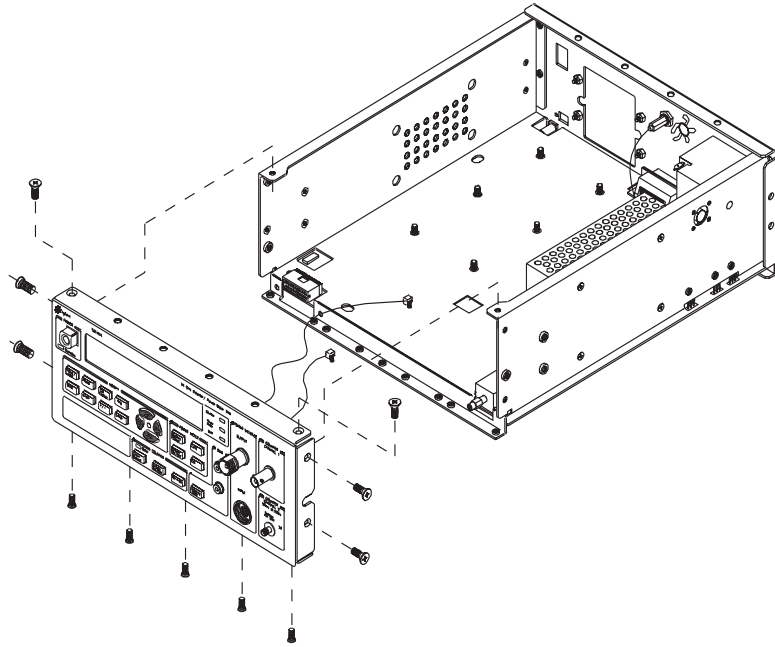

Figure 3-5. Removing the Front Panel Assembly
- 11 Remove the two 6-32 x ¼ flathead machine screws from the countersunk holes at the top-front corners of the chassis (see Figure 3-5).